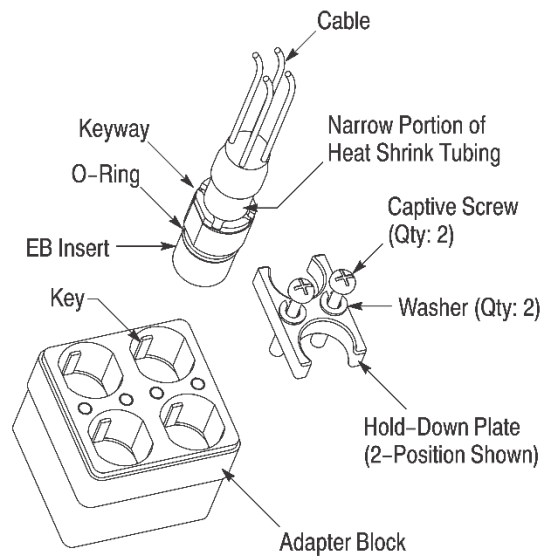

Figure 2
1. Slide the slot of the hold-down plate over the narrow portion of the heat shrink tubing of the EB insert. Refer to Figure 2. If the hold-down plate has multi-positions, load all positions with their respective EB inserts in the same manner.
2. Align the keyway of each EB insert with the respective key of the adapter block, and push each EB insert into the respective cavity. See Figure 2. There will be a momentary resistance as the O-ring compresses to enter the cavity, then a distinct bottoming when the EB insert is fully seated.